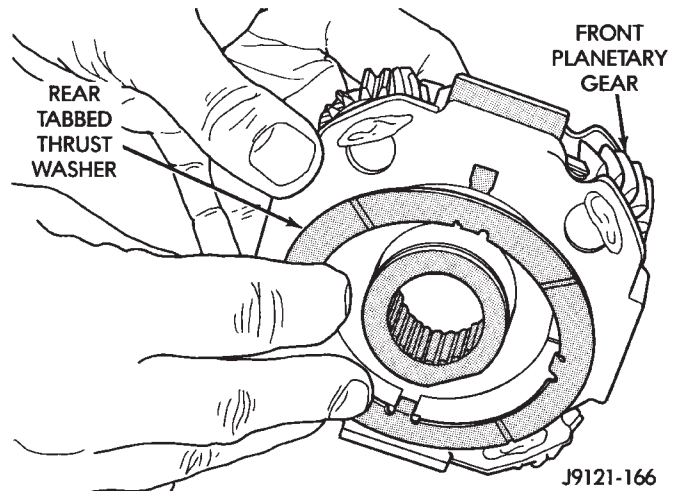

Fig. 94 Installing Rear Thrust Washer On Front Planetary Gear
(13) Install rear thrust washer on front planetary gear (Fig. 94). Use enough petroleum jelly to hold washer in place and be sure all four washer tabs are seated.